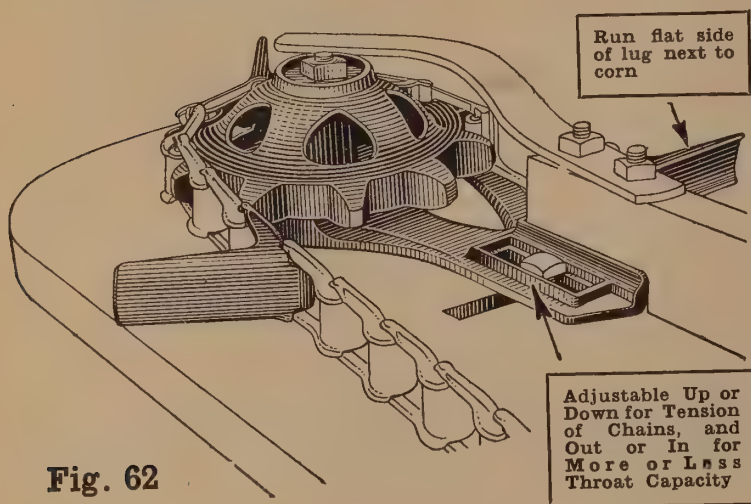

Fig. 62
Top Gatherer Chains. Top chain tightener brackets with chain guides (wood) are adjustable **up** and **down** for tension of top chains. (See Fig. 62.) Brackets are shipped set in the lower position to attach chains easily.
6. THROAT ADJUSTMENTS—TOP CHAINS: Top chain tightener brackets can be moved **out** or **in** to give throat **more** or **less** capacity. When cutting very tall ensilage corn, if wind is unfavorable and corn is top-heavy, top chains should be set close together to bring the tops back promptly, or set farther apart to retard the tops. (See Fig. 62.)